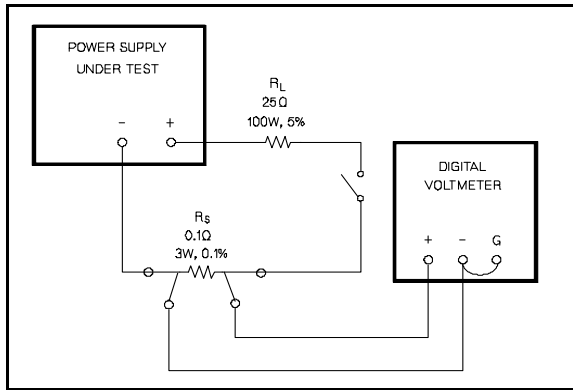

Figure A-4. Output Current, Test Set Up
- Connect the test setup shown Figure A-4 to the V1 supply's + and - output terminals.
- l. Connect the test setup shown in Figure A-4 to the V1 supply's + and - output terminals. Substitute a short for  $R_L$  and leave the load switch open.
- Connect the test setup shown in Figure A-4 to the output of the supply to be adjusted. Substitute a short for  $R_L$  and leave load circuit switch open.